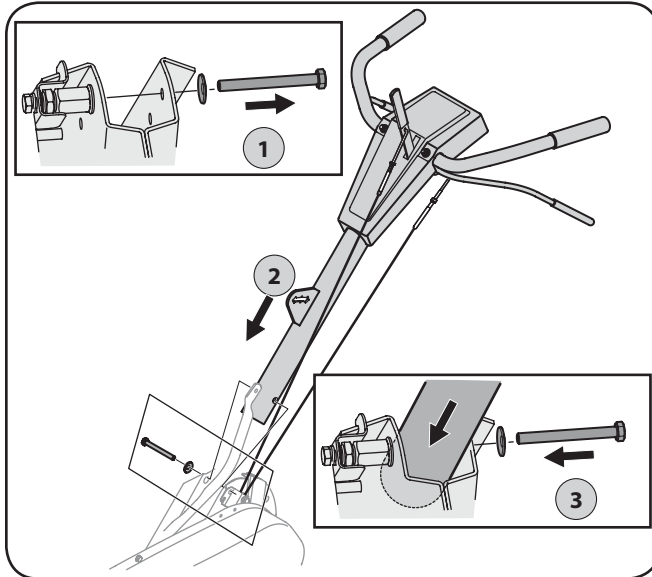

Figure 3-3
- Remove the hex bolt and cupped washer from the right side of the frame. Hold the cable guide bracket on the left side of the frame as it will fall when the bolt is removed. Step 1 in Fig. 3-3.
- Insert the handle into the tiller frame as shown. Step 2 in Fig. 3-3.
- Insert the bolt through the cupped washer, frame, handle and into the cable guide bracket (note the notch in the cable guide bracket goes over the flange on the frame.) Step 3 in Fig. 3-3.